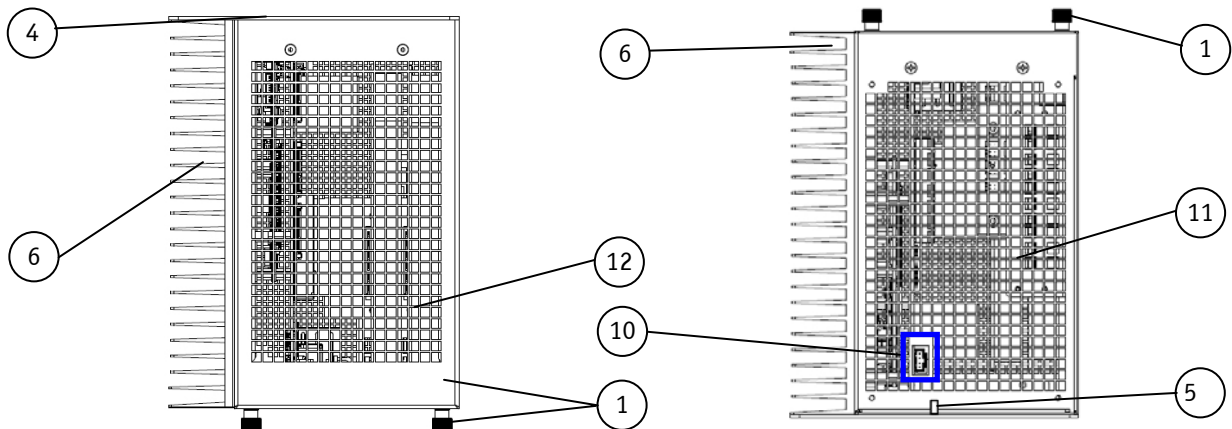
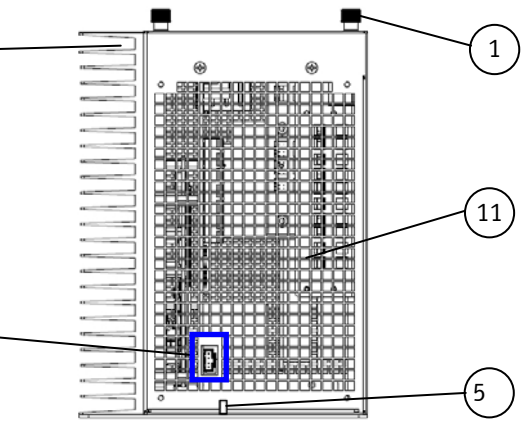

Fig. 24: Top side of the KBox C-101 system
Fig. 25: Bottom side of the KBox C-101 system
The KBox C-101 provides two PCIe x4 slots for half-length PCIe add-on cards. The two PCIe x4 expansions utilize a subset of the connections from the processor chipset PEG port. To access these slots (Fig. 10, PCIe 1 and PCIe 2) in order to install or remove PCIe x4 expansion cards you have to remove the top side access cover. For better accessibility of the expansion slots you should to remove the right side access cover (Fig. 24 and Fig. 22, pos 1 and 3) also. For installation/removing of the mSATA SSD refer to the subsection 10.2.3, "Installing an mSATA SSD".
Legend for Fig. 22, Fig. 23, Fig. 24 and Fig. 25: